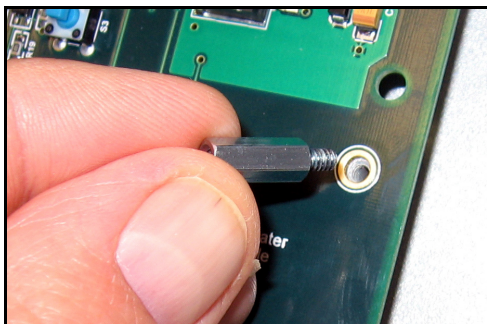
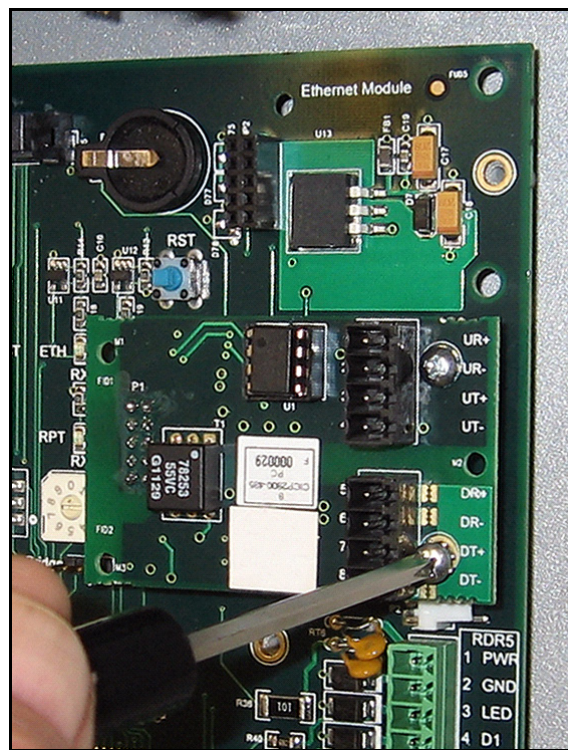

Fig. 3: Insert two metal standoffs into threaded holes.
Fig. 5: Secure the Repeater board with two screws.
Screw in two metal standoffs (provided) into the two threaded standoff holes in the Interface PC board as shown in Fig. 3.
5. As shown in Fig. 5, insert two small screws into the two metal threaded standoffs noted in Fig. 3 and tighten to secure the Repeater board. Do not over-tighten the screws.